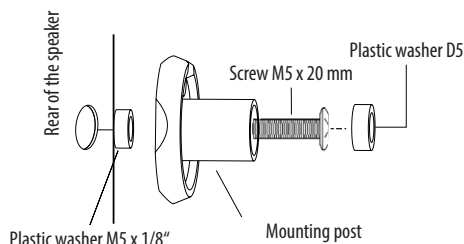

Figure 1
1. Most of the so-called satellite speakers require the use of an M5 x 20 mm screw in combination with a $\frac{1}{8}$ " plastic washer. The plastic washer is used as a spacer between the thread and the mounting post (see Figure 1).